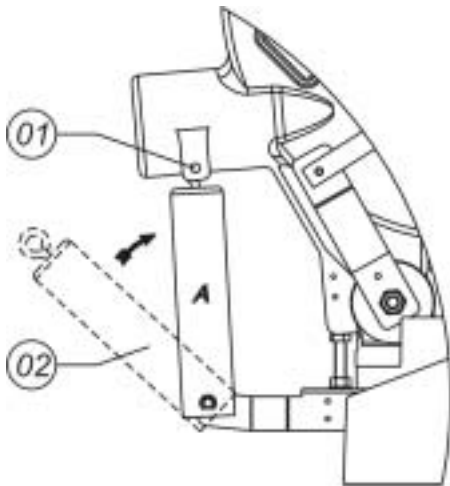

Figure 09
To mount the spring, remove the bolt fig. 09 (01) using Allen key 6mm that comes with the machine. Lift the top as far as possible, using the handle, place the spring in the direction of the arrow, until you are able to replace bolt in its original hole.